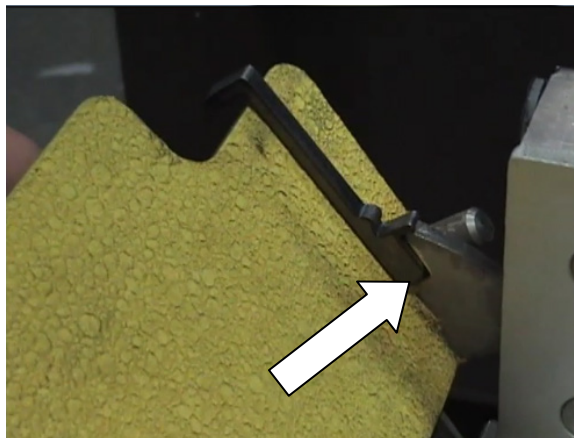

FIGURE 4-19: ROLLSTOP ADJUSTMENT TOOL
- 9) Refer to **Figure 4-19**. Place Rollstop Adjustment Tool into engagement hook of Rollstop.